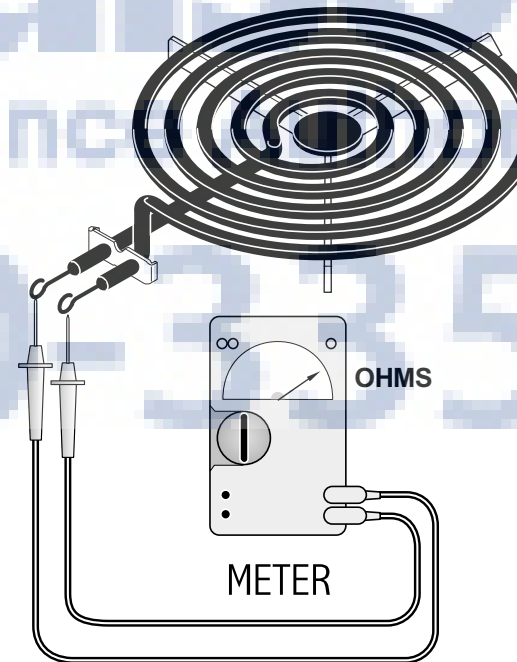

Fig. 3
- Set ohmmeter to R X 10 scale and attach meter leads to element. A low OHMS reading (continuity) should be indicated, and this reading may vary slightly on each element tested. If infinite OHMS (open) is indicated, element must be replaced (see Fig. 3).